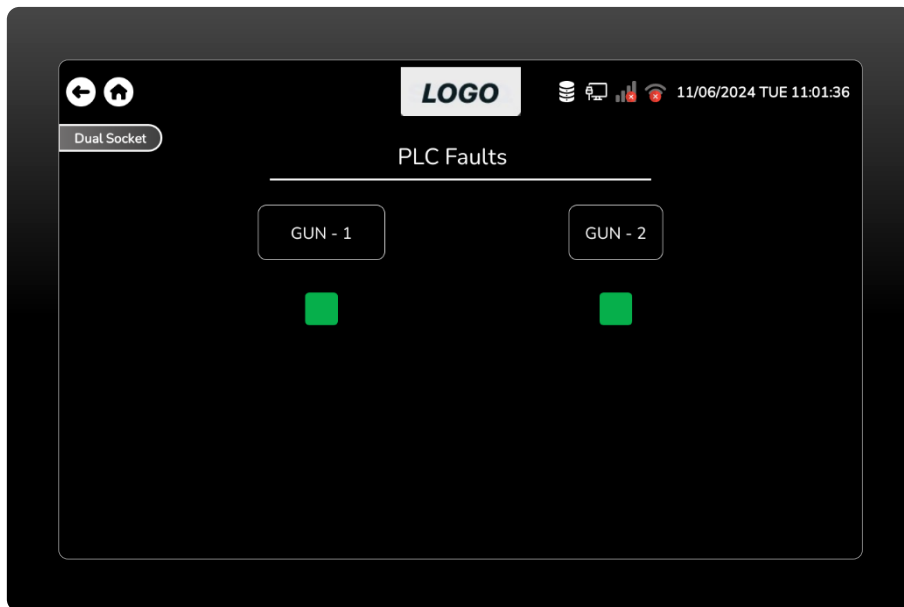

Figure 102 PLC Faults Screen.
- This is the PLC faults screen, where the user can view PLC faults for GUN-1 and GUN-2. (Figure 102)